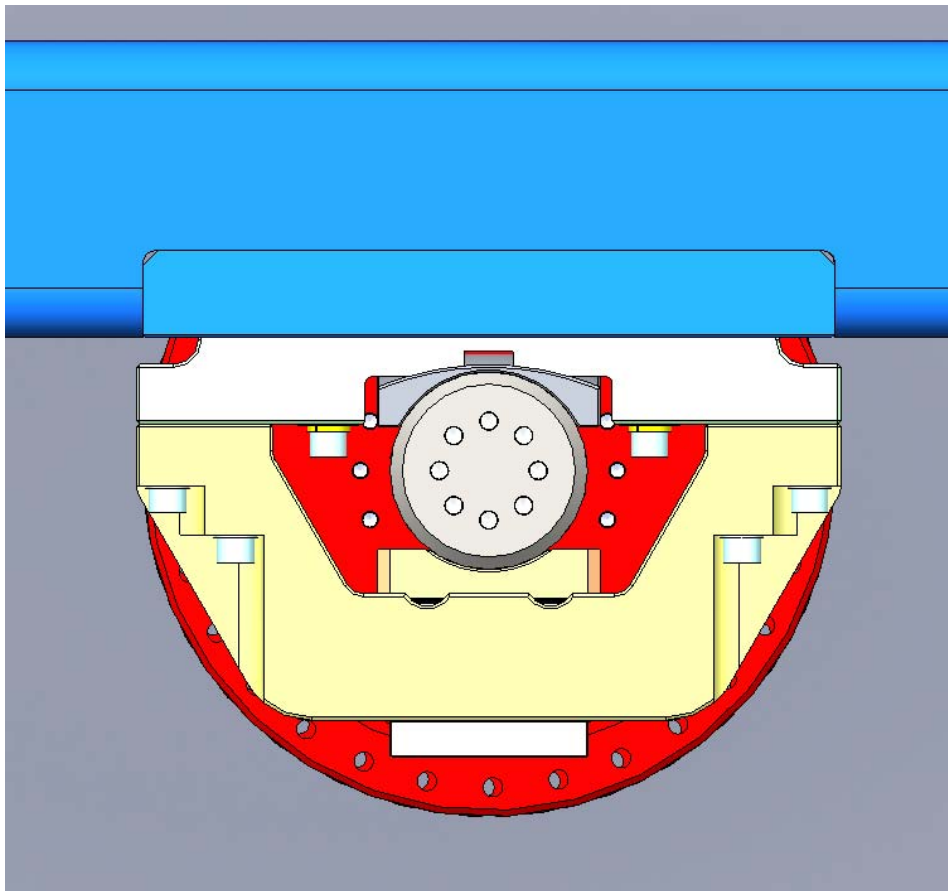

Figure 14
6.7 Move assembly into position as shown Figure 14 once it is in place secure with Item(7) (9) and (8). 1/2-13 x 3.5, 1/2-13 x 2.5, 1/2 flat washer tighten to 100 ft*lbs. in increments of 20 ft*lbs alternating diagonally, be sure clamp part is centered.